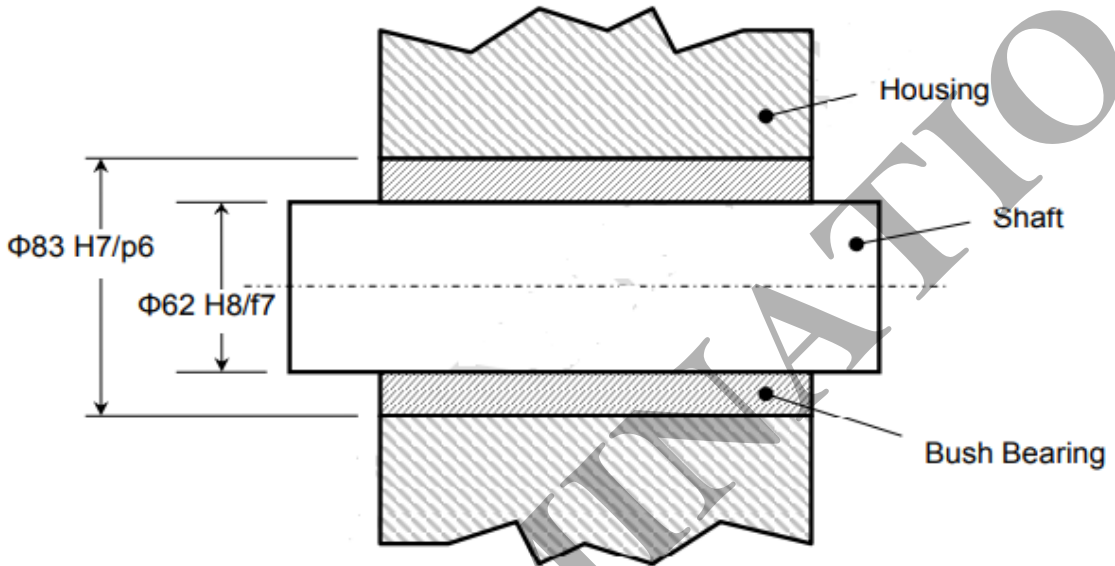

Figure 4
4. Drawn below in **figure 4** is a cross-section through a Shaft, Bush Bearing and Housing arrangement. Select fits that allow and fill the data in **Table Q4** below.